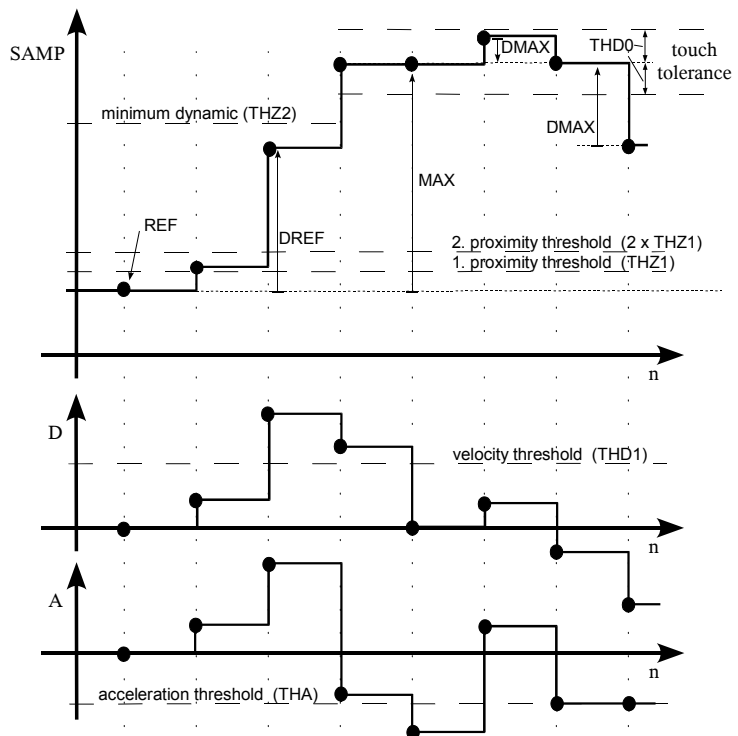

Figure 7: Signals and parameters
1. The dynamic (distance between reference and recent value) must pass the minimum which is set with the parameter THZ2 (see 4.3.3; figure 7).
2. The approach to the surface must pass a minimum speed which can be tuned by THD1 (see 4.3.3; figure 7).
3. The object must stop on the surface with a minimum of negative acceleration which is defined with THA (this parameter is coupled with THD1, see 4.3.3; figure 7).